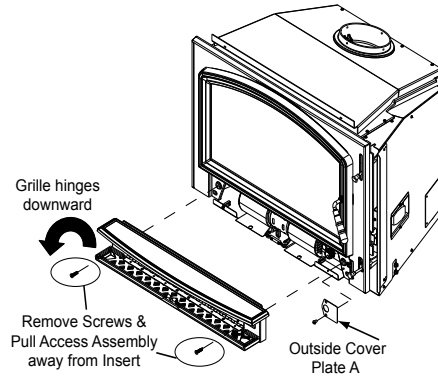

Figure 18.1
1. Swing grille down to expose the two screws (Figure 18.1).
10. Swing grille down to expose the two screws (Figure 18.1).